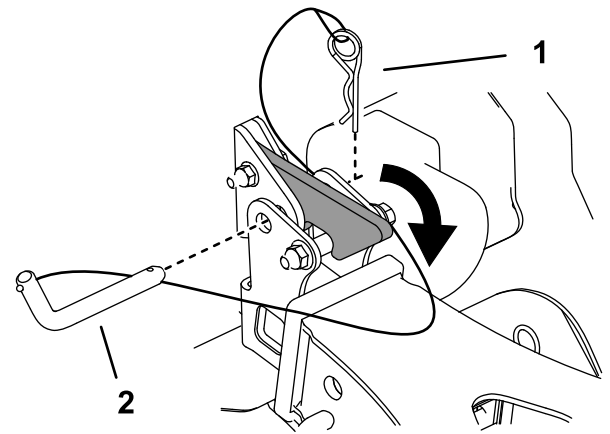
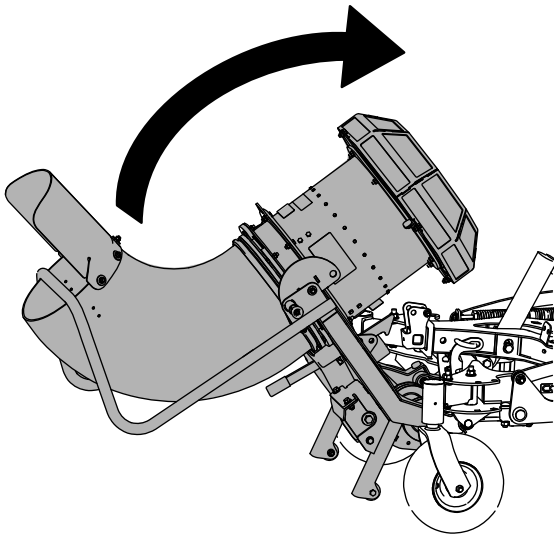

Figure 21
Figure 20
1. Raise the blower so that it latches on the hitch receiver (Figure 20 and Figure 21).
2. Secure the assembly to the hitch receiver using the hitch pin and hairpin cotter attached to the receiver (Figure 21).